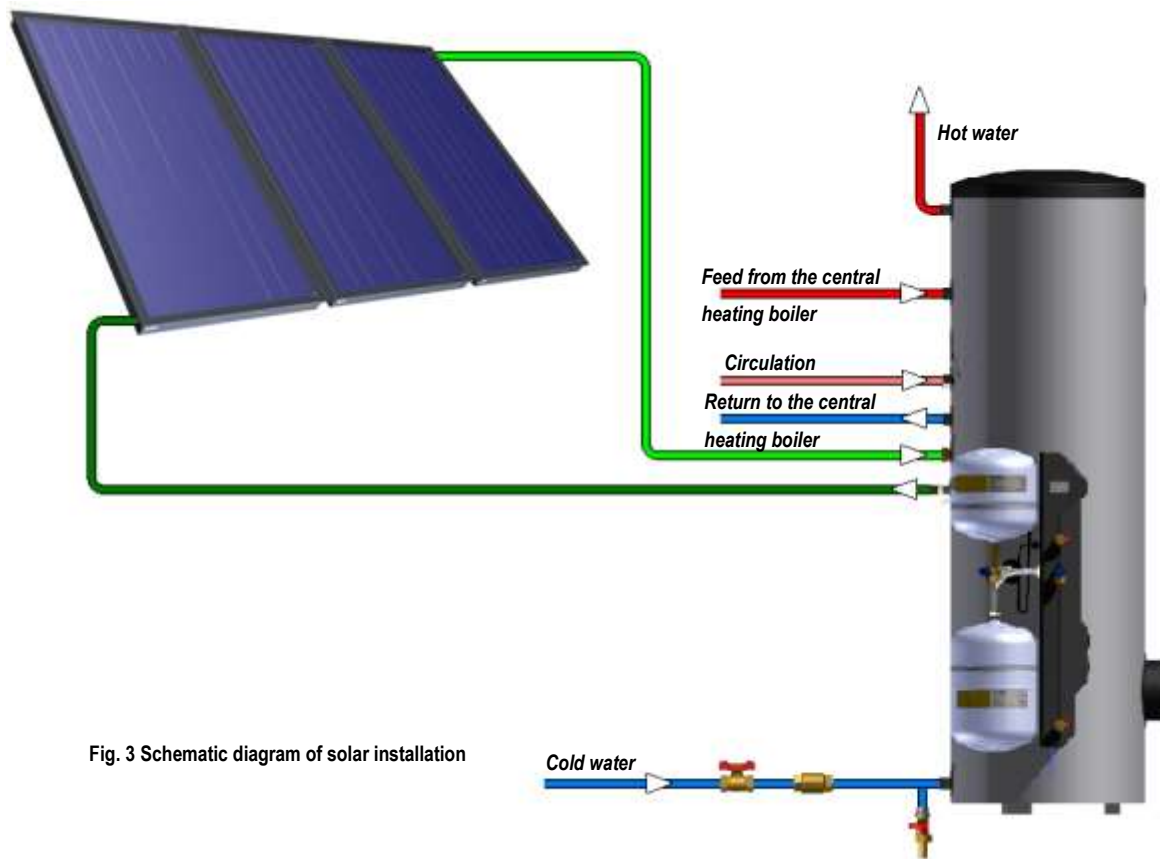

Fig. 3 Schematic diagram of solar installation
- Connect the heater with solar collectors and tap water piping installation, as shown in the schematic diagram of the installation (Fig. 3), or the schematic diagram of the installation in a warranty card.